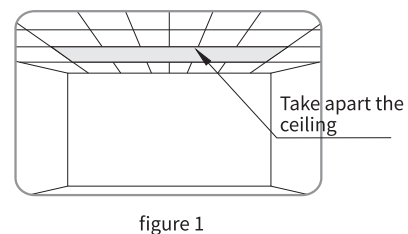
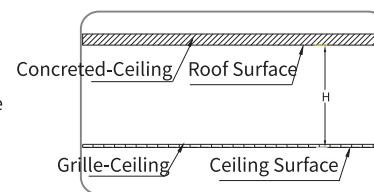

figure 1
figure 2
- Choose a position according to the required space, and then take apart the ceiling (figure 1). Please measure the distance H between roof and ceiling surface correctly (figure 2)